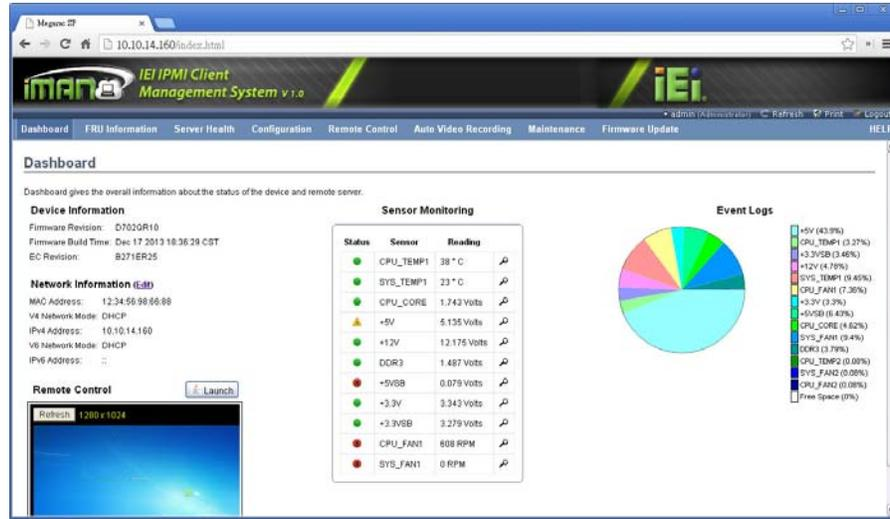

Figure 4-23: IEI iMAN Web GUI
- Step 6:** The IEI iMAN Web GUI appears (**Figure 4-23**).